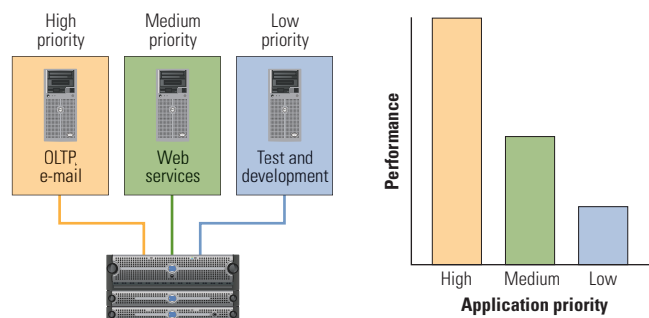

Figure 3. Different priority levels set for various applications using EMC Navisphere Quality of Service Manager
- **Performance targets:** NQM enables administrators to set targets for high-priority applications and limit resources for low-priority applications (see Figure 3). It includes a scheduler that allows them to adjust service-level requirements dynamically, giving priority to certain applications during specified periods—for example, giving high priority to an e-mail application during the day to improve response time during peak usage, then giving high priority to a backup application at night.